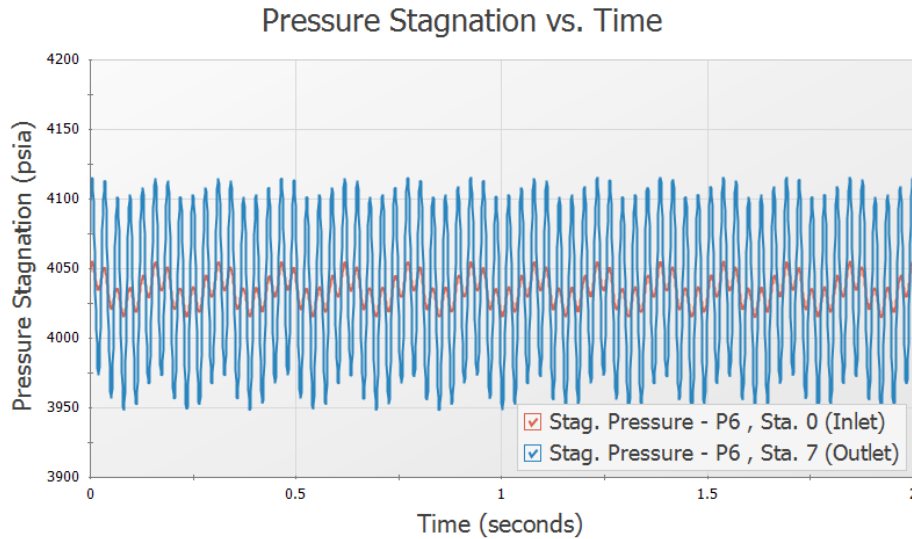

Figure 18: Pressure Oscillations at Inlet and Outlet of Pipe P6 for 130.4 RPM
7. Click Generate (see Figure 18).